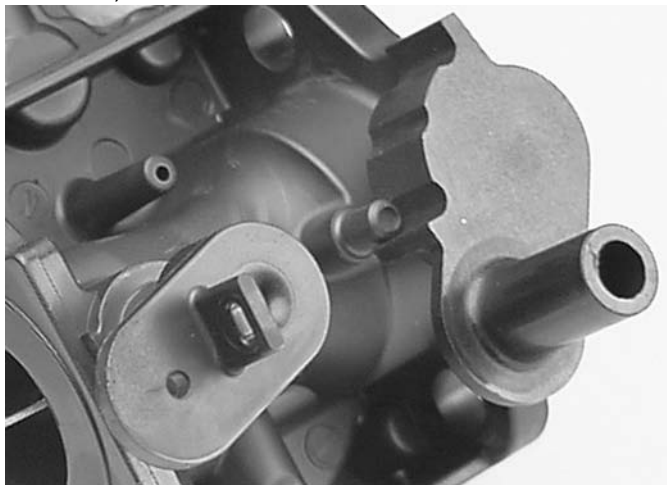

Fig. 39
3. Set the choke lever to the full-open detent (Figure 39).